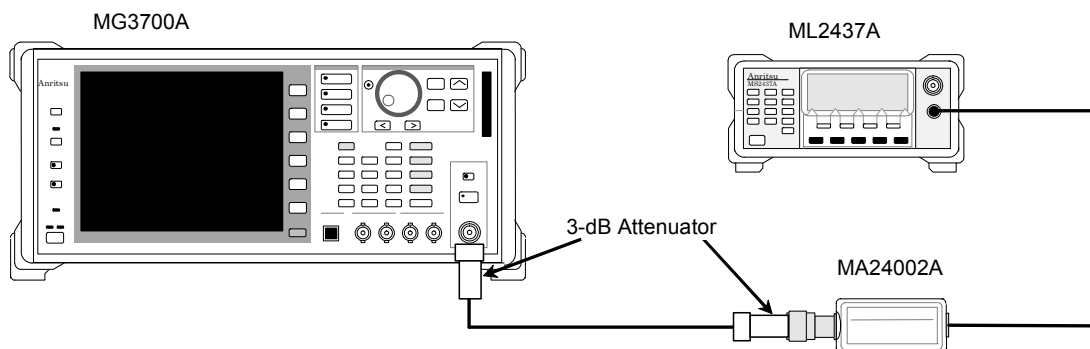

Figure 6.3.2-1 Signal Generator Calibration Setup (MOD)
1. Setup the instruments as shown in Figure 6.3.2-1.
2. Output a modulated 399.99 MHz signal from the Vector signal generator (SG) at a level of -4 dBm.